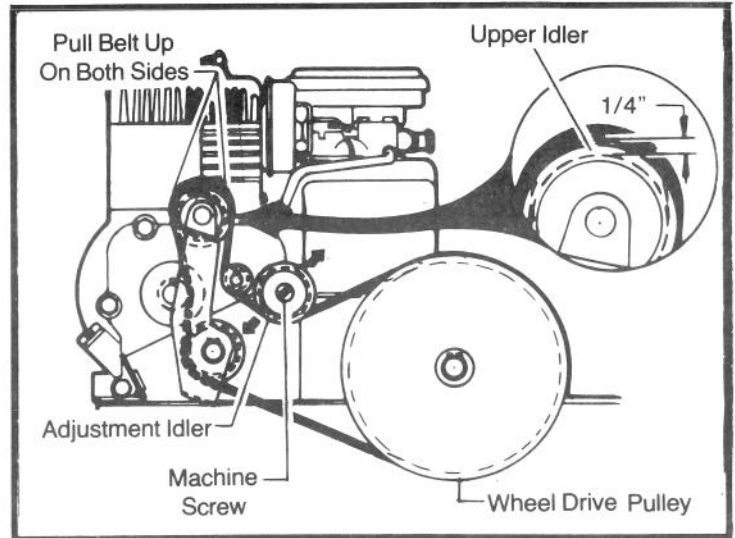
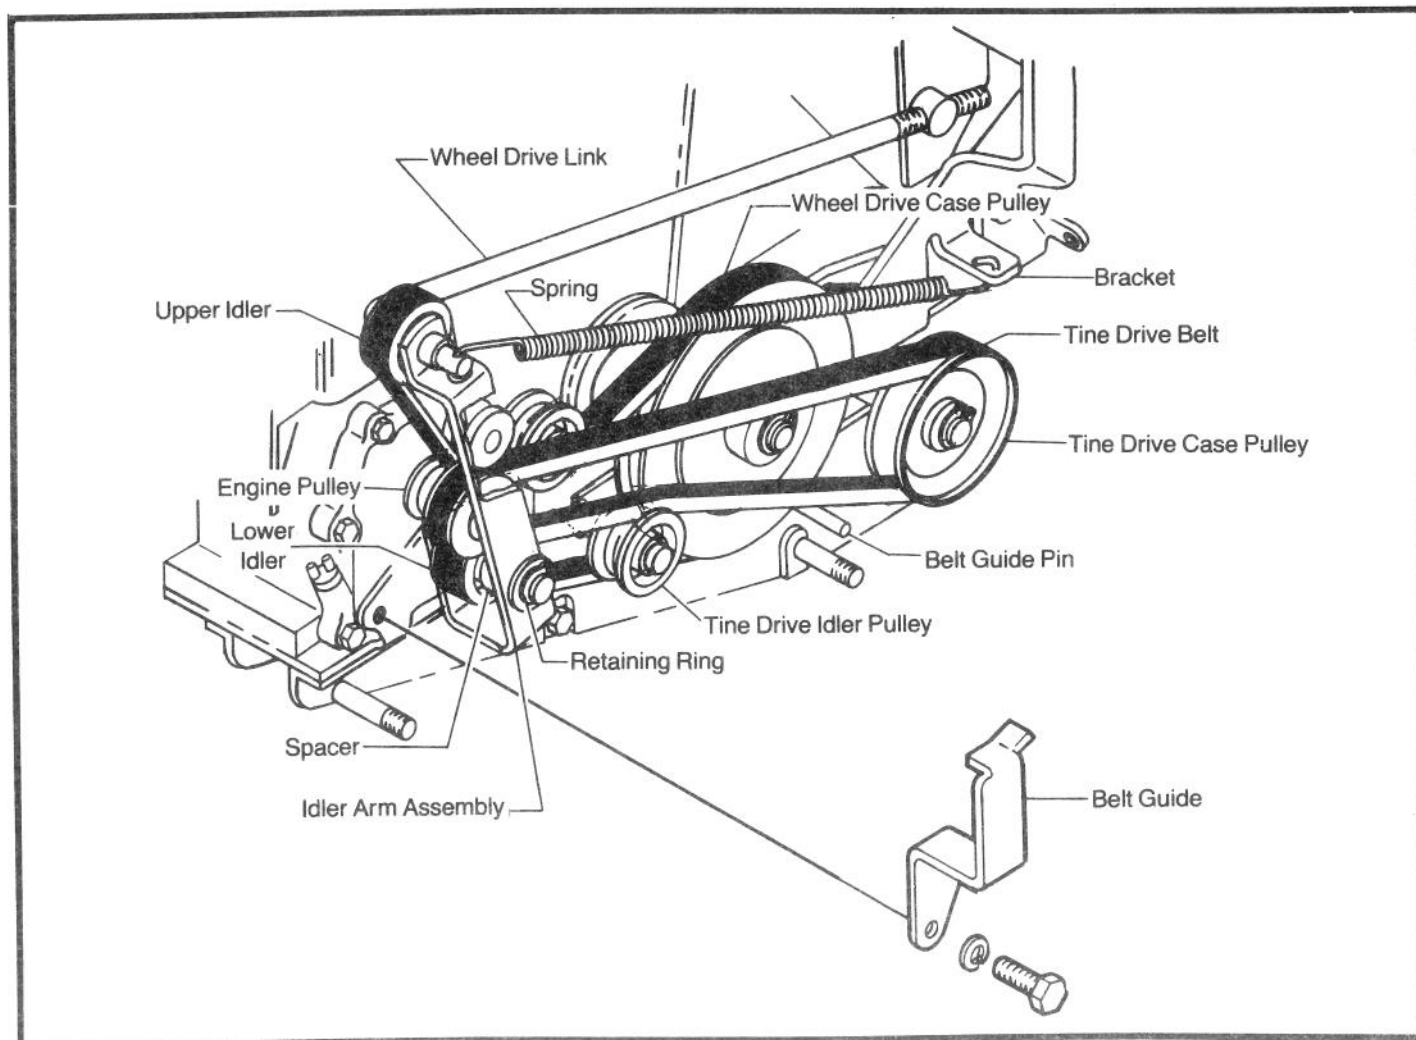

FIGURE 10
FIGURE 16
The wheel drive belt, which is the inner belt, is adjusted by moving the adjustment idler (Fig. 10). With the clutch control lever in the neutral position, pull belt up on both sides of upper idler. There should be approximately $\frac{1}{4}$ inch between the upper idler and the belt (Fig. 10). The adjustment idler should be positioned to obtain this $\frac{1}{4}$ inch. Moving idler up will increase clearance and down will decrease clearance.
Pull the clutch control lever into reverse. If the lever hits the shroud and you do not have reverse, refer to Fig. 10. Move the adjustment idler down one notch and repeat the "Clutch Control Lever Adjustment".
3. Remove the belt guide (Fig. 16).
6. To replace belt, reverse above procedure. Be sure belt is on top of tine drive idler pulley and the belt guide pin near the tine drive case pulley (Fig. 16).
2. Unhook spring from bracket and wheel drive link, Fig. 16.
6. Remove belt and replace with new belt by reversing the above procedure. **Be sure belt is turned inside out** (wide side against wheel drive case pulley). See Fig. 10 and Fig. 16 for belt routing.